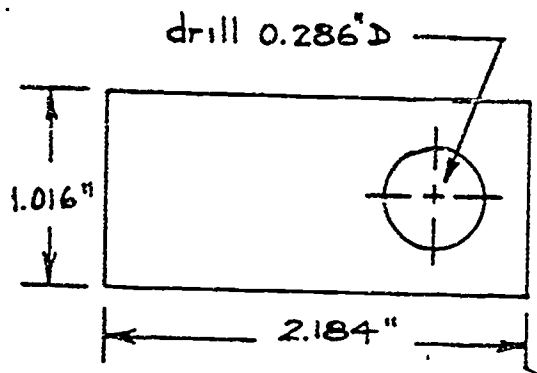

Figure 2: Bracket brace.
5. Your supervisor gave you a sketch to lay out a brace for a bracket assembly. Look at Figure 2. Calculate to the nearest 64th of an inch the length, width and hole diameter. Your supervisor told you not to worry about tolerance. Length _____ Width _____ Hole diameter _____